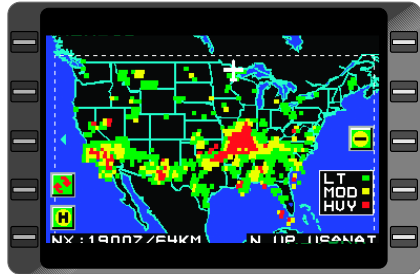

Figure 7-176
1. From the **MAP** page, press the **HISTORY** icon (LSK 5L) with the **NEXRAD** feature displayed. See Figure 7-176. There must be a sufficient number of NEXRAD images stored in memory to utilize the **Historical NEXRAD** replay feature.